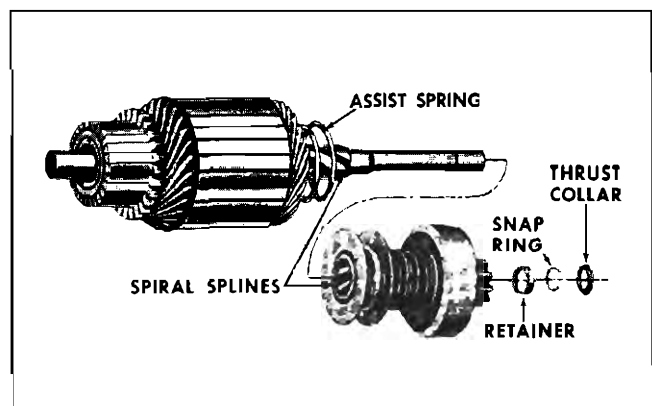

Fig. 11-43 Armature and Overrunning Clutch Assembly—Exploded View
- a. Slide thrust collar (Fig. 11-43) off end of armature shaft.